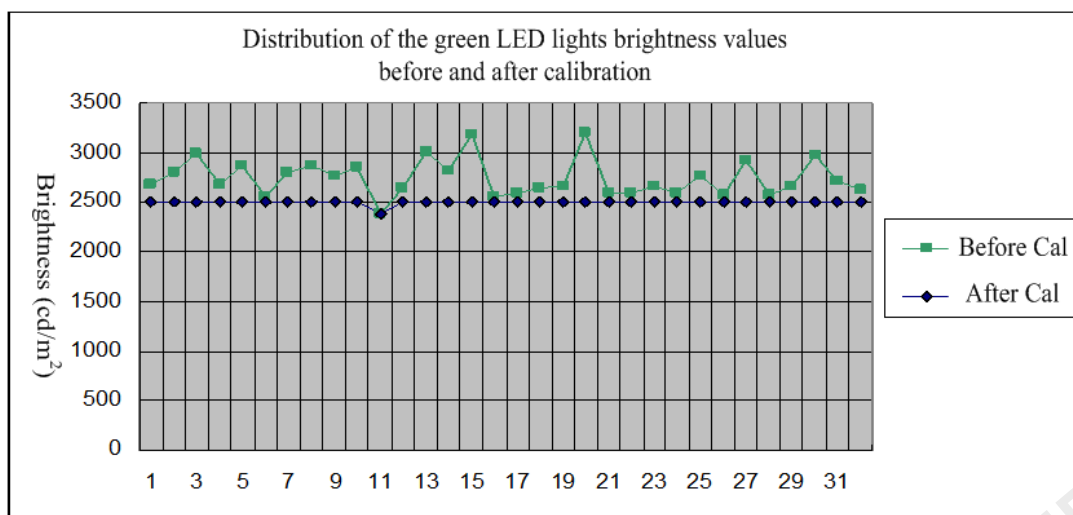

Fig.9-7 Brightness Values Distribution Before and After Calibration
- ✧ **Brightness calibration:** Brightness calibration is to adjust the brightness of LED lights to improve the brightness uniformity. In the brightness calibration, brightness of most lights will be properly lowered. Fig.9-7 shows an example of brightness adjustment of green LED lights, in which there are two brightness distribution curves corresponding to before and after calibration (adjustment) respectively. Before calibration, the brightness values of green LED lights are scattered between 2400 – 3300 cd/m², but after calibration those are concentrated almost at 2500 cd/m², representing high brightness uniformity.